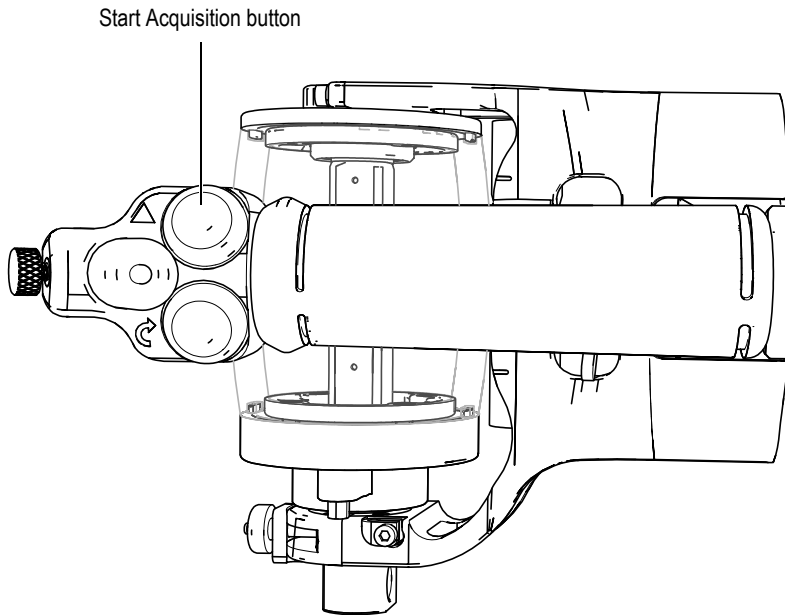

Figure 5-5 Start Acquisition button location
8. Press the Start Acquisition button located on top of the RollerFORM’s handle (Figure 5-5 on page 74).